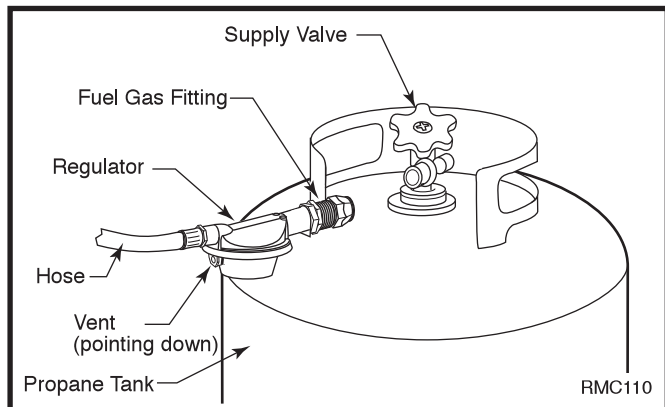

Fig. 5 Attach regulator with vent pointing down.
9. Connect fuel gas fittings on regulator hose assembly to propane tank(s). Turn fuel gas fitting counterclockwise into threads on tank. Tighten firmly using a wrench. **IMPORTANT:** Tighten regulator with vent pointing down. Pointing vent down protects regulator from weather damage. (Fig. 5)